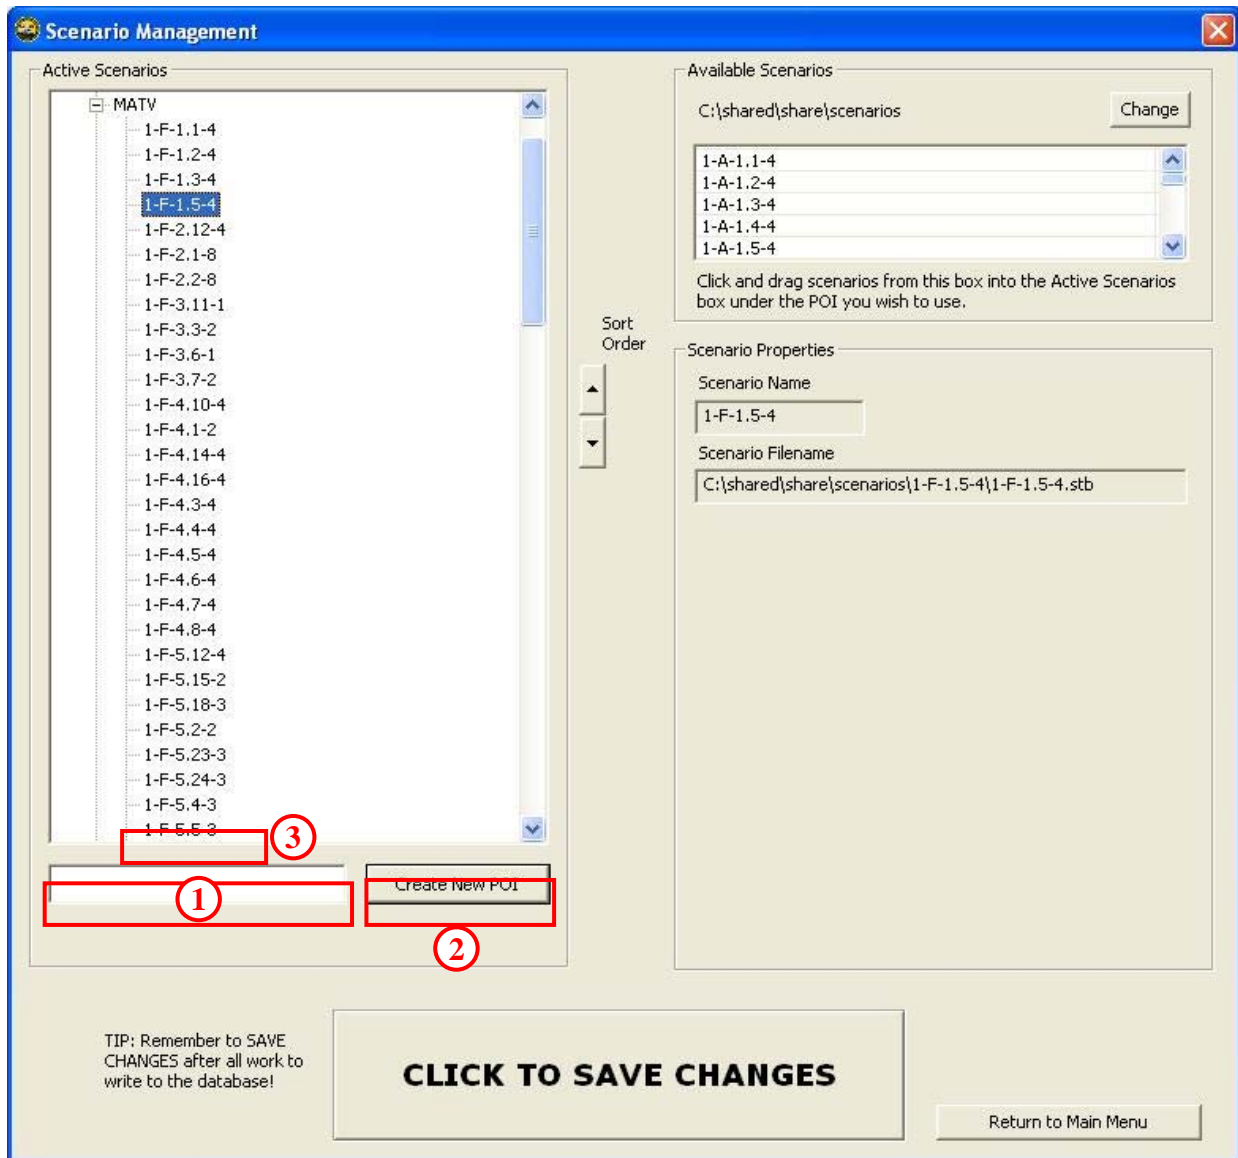

Figure 71. Scenario Management - Adding a POI
2. Use the Scenario Management screen (Figure 71) to set scenario configurations and limits.
The Scenario Management screen (Figure 71) shows all the available Programs of Instruction (POI). The levels may be expanded out to view all scenarios by clicking the [+] sign to the left of each category. Once a scenario is selected, the options to configure the limits, modifiers, configuration data, and options may be made by clicking the applicable buttons. Click the keyboard [DELETE] key to remove a scenario.
1. Enter the POI name in the field next to the [CREATE NEW POI] button (Figure 71).